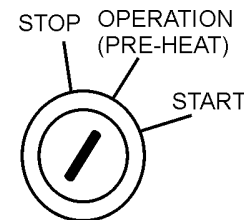
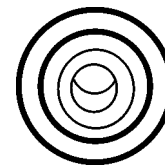

Figure 39. Ignition Switch
Figure 40. Pre-Heat Lamp
2. Preheat the engine glow plugs by turning the ignition key (Figure 39) to the "OPERATION" position..
3. When the preheat lamp goes OFF (Figure 40), turn the ignition key to the "start" position. Once the engine starts, release the ignition key and allow it to return to the "operation" position (Figure 39).